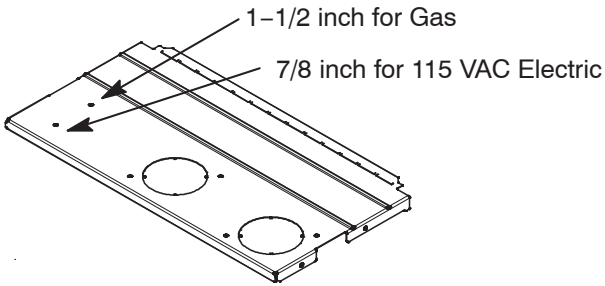

Fig. 32 - Alternate Gas and Electric Entry
NOTE: Check to ensure that external electrical box does not interfere with duct work, gas piping or the indoor coil drain. See **Fig. 32** for alternate electric entry through top panel.
5. Fasten the external electrical box to the furnace casing using two (2) sheet metal screws.
11. Connect field power and neutral leads to furnace power leads inside the external electrical box as shown in **Fig. 32**.